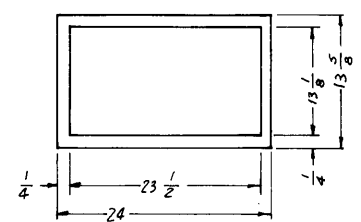

Figure 2-7. Interconnection and Cabling Diagram, General Purpose Transmitter, SBT-1KA6
(6) Depress release buttons and slide modular unit completely into compartment.
(7) Secure front panel of modular unit to the rack with screws.
c. INTERCONNECTION OF MODULAR UNITS. - Figure 2-7 illustrates the cabling and wiring interconnection between the various modular units contained in the transmitter. Refer to figure 2-7 and connect modular units as indicated.